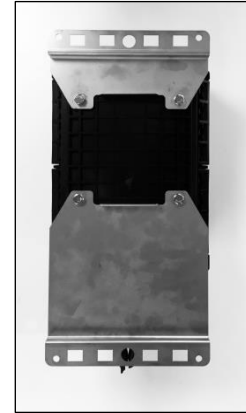

Figure 12
1. Attach the pole mounting brackets using the included mounting bolts on the back of the FSDC (Figure 12).